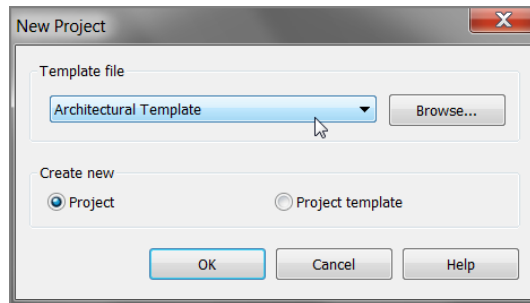

FIGURE 1.5: The New Project dialog allows you to start a new project using a preexisting template file, or you can create a new template file.
5. The New Project dialog shown in Figure 1.5 opens. Click the Template File drop-down menu, and select Architectural Template. If you're a metric user, click the Browse button. This will open Windows Explorer. Go up one level, and choose the US Metric folder. Select the file called DefaultMetric.rte.